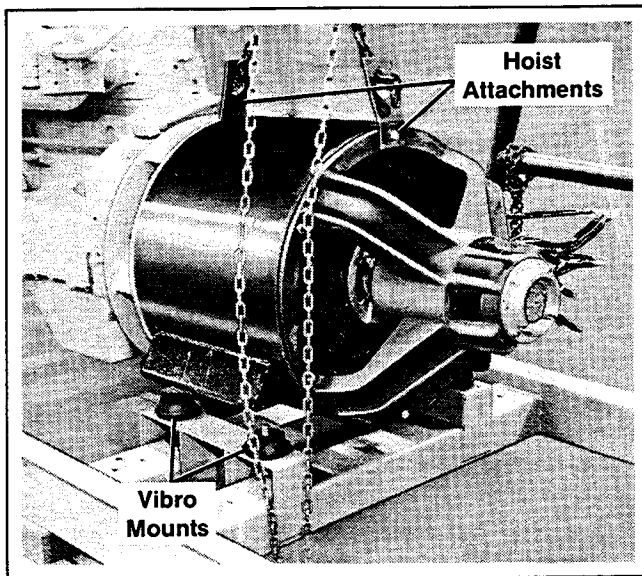

Figure 5-2. Hoisting Generator End
8. Suspend generator at both ends and raise with hoist, as shown in Figure 5-2, to lift generator off of vibro-mounts.